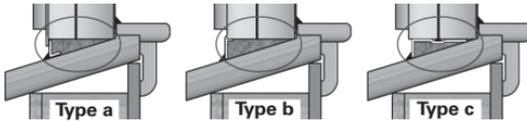

Figure 2
- For windows with sill adapters and exterior flanges (Figure 2, Type a):**
- Place shims at the four (4) required screw locations, confirm shimming and window position, then tighten all four screws, compressing the vinyl frame against the shims. To prevent jamb bow, DO NOT OVERTIGHTEN.
- For windows with an exterior accessory groove in the sill, insert the sill adapter tongue into the sill's exterior accessory groove and tap into place (see Figure 2, Type b).
- For windows without an exterior accessory groove in the sill, use an L-shaped sill adapter (see Figure 2, Type c). Apply a 1/4" min. bead of exterior grade sealant along the full length of the trough on the top edge of the profile. Slide the adapter with batt insulation underneath up along the sloped sill until the adapter's top is flush against the new window sill's bottom, compressing sealant bead up against the sill of the replacement window.